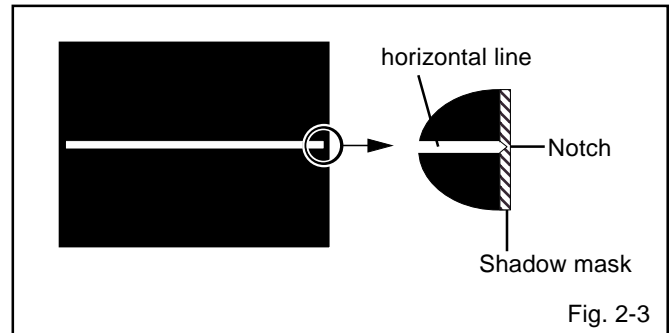

Fig. 2-3
3. Adjust the **VR401** until the horizontal line becomes fit to the notch of the shadow mask. (**Refer to Fig. 2-3**)